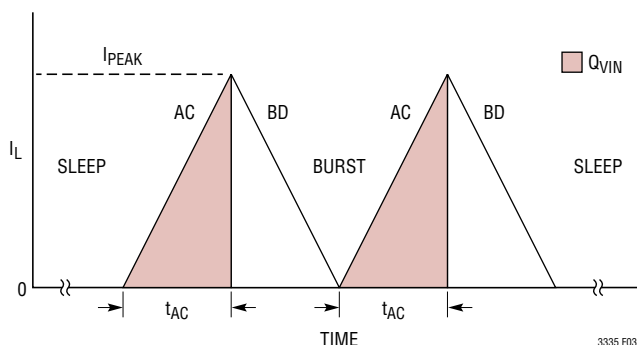

Figure 3
The LTC3335 integrates a precision coulomb counter to monitor the accumulated charge that is transferred from the battery whenever the buck-boost converter is delivering current to V_{OUT}. The buck-boost converter operates as an H-Bridge for all BAT/V_{OUT} conditions when not in sleep (see Figure 3). Switches A and C turn ON at the beginning of each burst cycle. Inductor current ramps to I_{PEAK} and then switches A and C turn OFF. Switches B and D then turn ON until the inductor current ramps to zero. This cycle repeats until V_{OUT} reaches the sleep threshold.
If I_{PEAK} and the switch AC(ON) time (t_{AC}) are both known, then the BAT discharge coulombs (shaded area in Figure 3) can be calculated by counting the number of AC(ON) cycles and multiplying by the charge per AC(ON) cycle given in Formula (1) below: